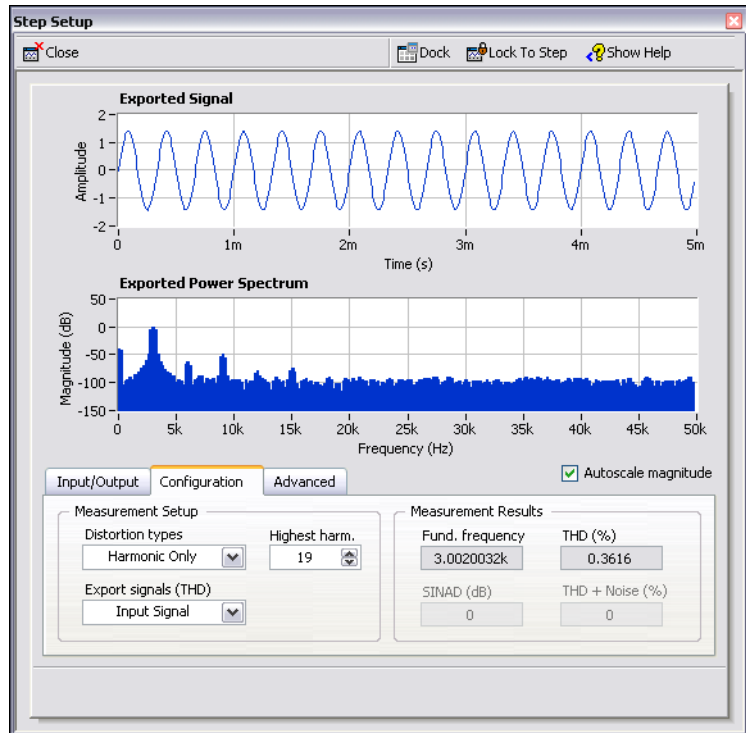

Figure 3-3. Distortion Step Setup Dialog Box
1. Double-click the Distortion step in the Project View. The **Step Setup** dialog box for the Distortion step appears, as shown in Figure 3-3.